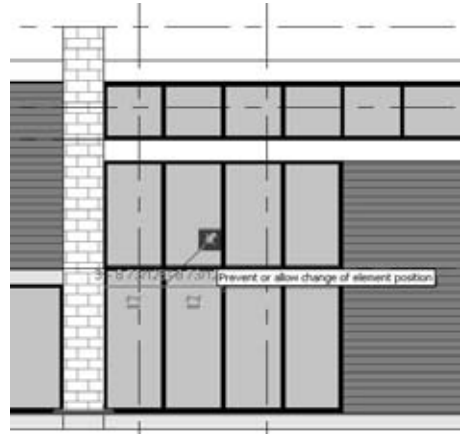

Figure 4.90
- Note that the gridline has a pin icon associated with it. This indicates that the grid is locked into place and can't be moved interactively. This is because the grid is defined in the wall type — as a spacing rule. However, the grid can be unpinned and then moved interactively if you desire. Click the pin to unlock it, and drag the grid. For now, let's leave the grid pinned and only deal with removing segments of grids. You can see the pins in Figure 4.90.